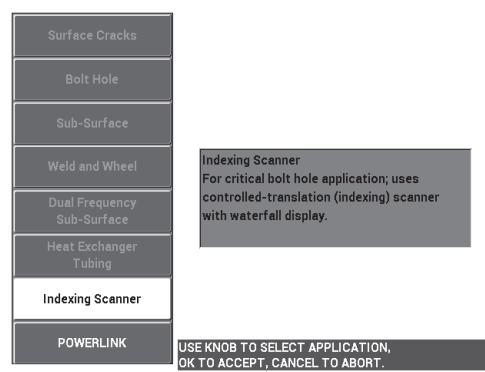

Figure 5-63 The Indexing Scanner application
3. Press the ADV SETUP menu key () once, and then select **APPL SELECT** (A key) to open the application selection menu. Select **Indexing Scanner** with the knob, then press  to accept (see Figure 5-63 on page 173).